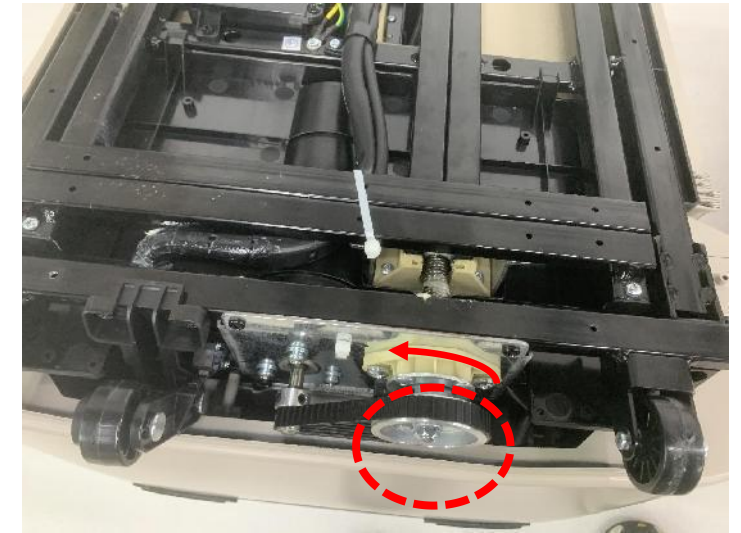

Figure 3
3. Turn the telescopic passive wheel to the left to stretch the calf (Figure 3)
4.10. Removal of kneading assembly and kneading motor (2)